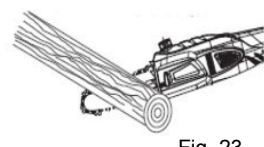

Fig. 23
**OVERBUCKING** - Begin on the top side of the log with the button of the saw against the log; exert light pressure downward. Note that the saw will tend to pull away from you. (Fig. 23)
**UNDER-BUCKING** - Begin on the under side of the log with the top of the saw against the log; exert light pressure upward. During under-bucking, the saw will tend to push back at you. Be prepared for this reaction and hold the saw firmly to maintain control. (Fig. 23)